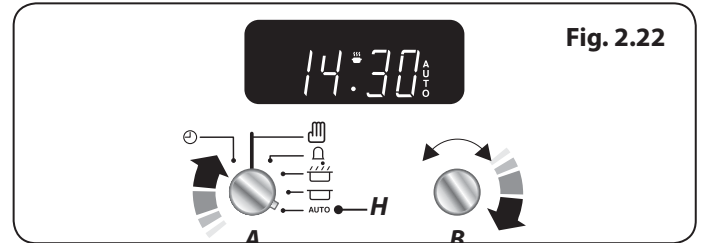

Fig. 2.22
3. Continue to turn the **Adjusting (B)** knob to the amount of time required e.g. 1 minute. The display will show the current time plus the required length of time you have set (**Fig. 2.22**).
4. Turn the **Timer (A)** knob to the **Auto (H)** setting. The display will show the current time, the Cooking symbol and the word **'AUTO'** (**Fig. 2.22**).